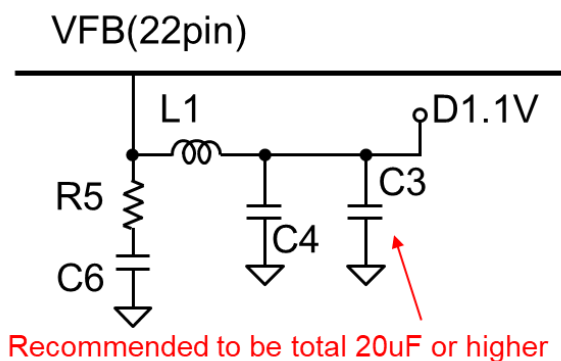

Figure 2-5 Example of an external circuit for a DC-DC converter
- Figure 2-5 shows an example of an external circuit for a DC-DC converter, and Table 2-3 shows an example of its circuit constants.